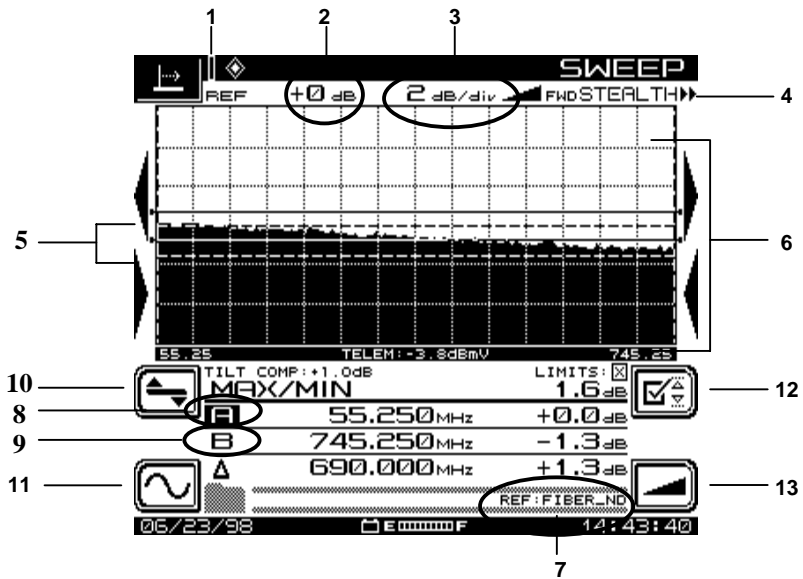

Fig. 4-10 The SWEEP Screen
The Sweep function has four operating modes, Stealth, Transmit, Loopback, and Sweepless. The current sweep mode is indicated in the upper right-hand corner of the screen (see Fig. 4-10). The Stealth mode allows sweep insertion points to be injected in vacant spectrum areas. The Loopback mode enables you to perform a rough frequency response, gain, and loss test on active and passive devices in the field. The Sweepless mode only measures actual system carriers. Any system carrier can be used as a data point, even scrambled or digital carriers. In either mode, a previously stored response can be used as a reference to the current measurement. Sweep references are selected in the File setup menu (see “Sweep References” in Chapter 11, page 201). The Transmit mode operates the same as the Scan mode with these exceptions: sweep telemetry is transmitted, sweep points are injected, and sweep point levels are displayed (see “Scan Measurements” in Chapter 6, page 115).
You can get to the SWEEP screen (see Fig. 4-10) through the NAVIGATOR or by pressing the SWEEP measurement mode key under lower right corner of the screen.
Call up the frequency screen from the SWEEP screen (Fig. 4-10) by pressing the soft key in the lower left corner.
-  Call up the level screen from the SWEEP screen (Fig. 4-10) by pressing the soft key above the Frequency Submenu icon.
Call up the limit screen from the SWEEP screen (Fig. 4-10) by pressing the top soft key on the right side of the screen.
Call up the tilt screen from the SWEEP screen (Fig. 4-10) by pressing the bottom soft key on the right side of the screen.
**NOTE:** Many of the icons and other display features of the reverse SWEEP screen are identical to those shown in Fig. 4-10.